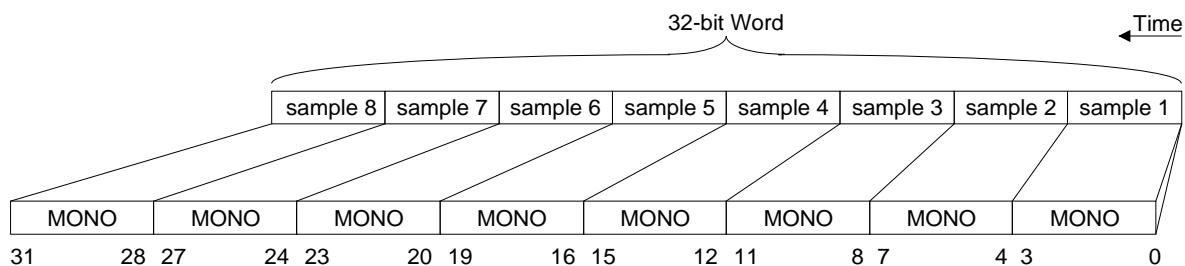

Figure 16. 4-bit Mono, ADPCM Audio Data
Additional data formats are supported in MODE 2 operation: 4-bit ADPCM, and 16-bit signed big endian. See Figures 16 through 19. With the addition of the Big Endian and ADPCM audio data formats, the CS4231A is compliant with the IMA recommendations for digital audio data formats (and sample frequencies).
In MODE 2, the CS4231A also contains Adaptive Differential Pulse Code Modulation (ADPCM) for improved performance and compression ratios over μ -Law or A-Law. The ADPCM format is compliant with the IMA standard and provides a 4-to-1 compression ratio (i.e. 4 bits are saved for each 16-bit sample captured). For more detailed information on the IMA ADPCM format contact the IMA at (410) 626-1380. Figures 16 and 17 illustrate the ADPCM data flow.